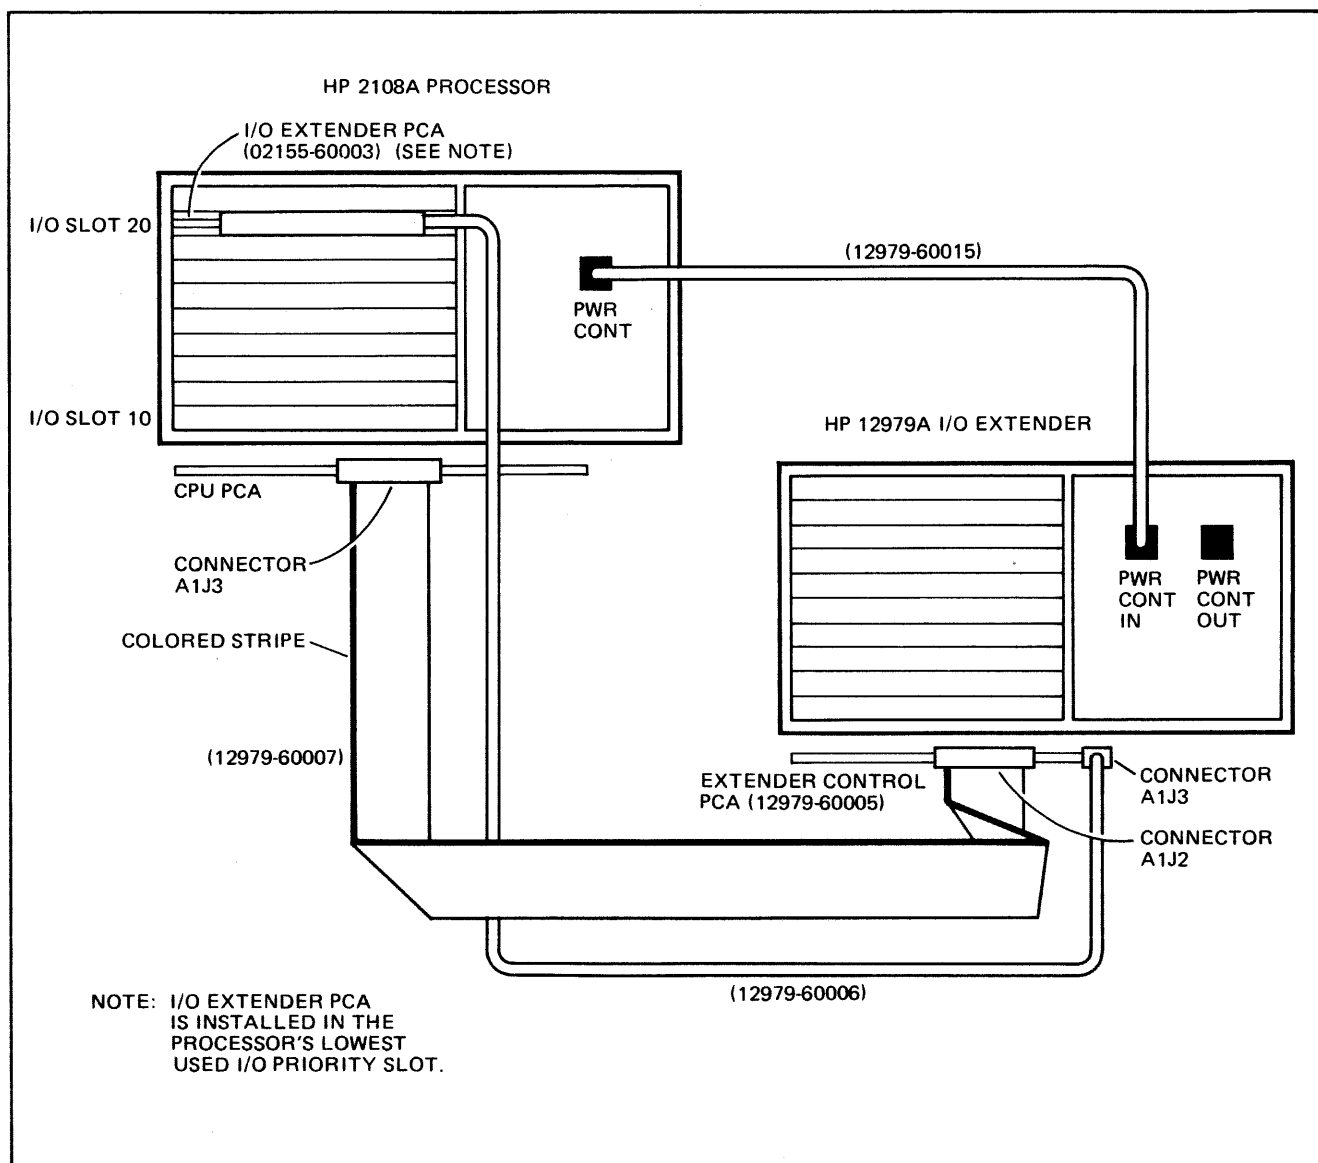

Figure 1-6. Single I/O Extender, Interface to Processor (Rear View)
Single I/O extender installation provides 16 additional I/O slots to the processor. The extender PCA's and cables interconnect the processor and the extender as shown in figure 1-6. Assuming that extender priority and I/O priority have been determined as described in paragraphs 1-12 and 1-13, proceed as follows:
- l. Pass one end of I/O extension cable assembly (part no. 12979-60006) through opening at rear of extender and connect it to extender control PCA connector A1J3. (See figure 1-6.)
1-29. POWER-UP THRESHOLD. The extender is shipped with the power-up threshold set just below the lower limit of the mains voltage configuration. That is, if the extender is configured for 110-volt operation, the power-up threshold is set at 88 volts rms; if the extender is configured for 220-volt operation, the power-up threshold is set at 176 volts rms. If one or more peripheral devices in the extender system will not operate properly when the mains voltage drops below say 100 volts rms (standard) or 200 volts rms (option 015), it may be necessary to raise the power-up threshold to this level. Verify and, if desired, readjust the power-up threshold. Assuming that the extender has been interfaced with a processor as shown in figure 1-6, and that the processor's power-up threshold has been set, proceed as follows: